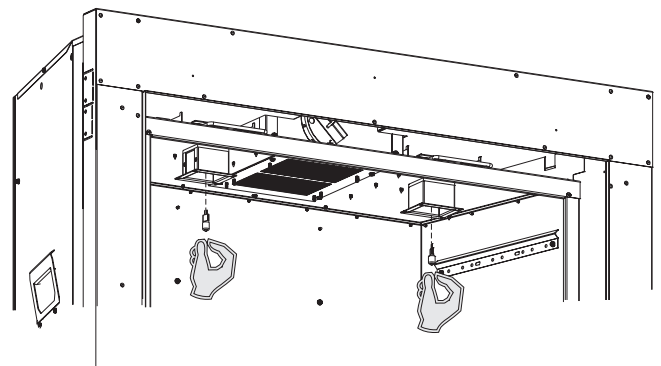

Figure 84
2. Remove old light bulb and replace with a new one. **See Figure 84.**